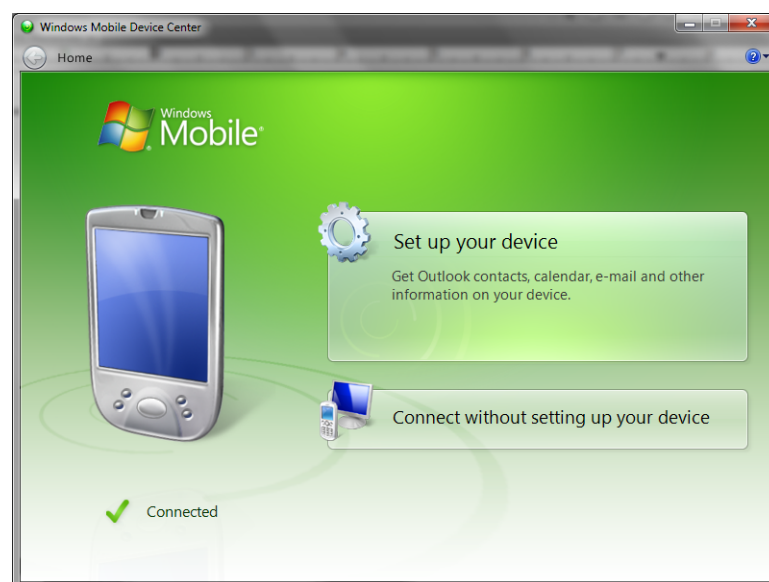

Figure 1-8. Windows Mobile Device Center
- 5 Create a connection at anytime by connecting one end of the serial cable in your computer and the other end in the Allegro. WMDC automatically opens (Figure 1-8). Click **Connect without setting up your device** to create a connection.